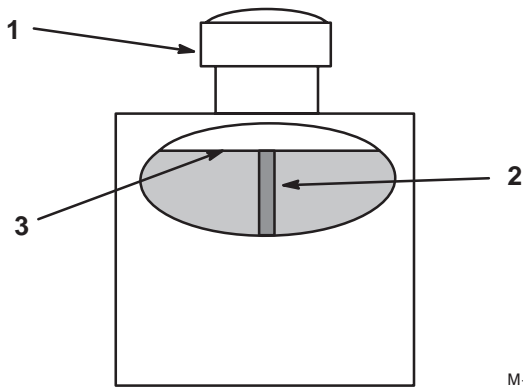

Figure 9
2. Clean area around filler neck of hydraulic tank (Fig. 9).
3. Remove cap from filler neck. Look inside to check if there is fluid in the reservoir (Fig. 9).
- Note:** Fluid level should be to the top of the baffle when fluid is warm (Fig. 9).